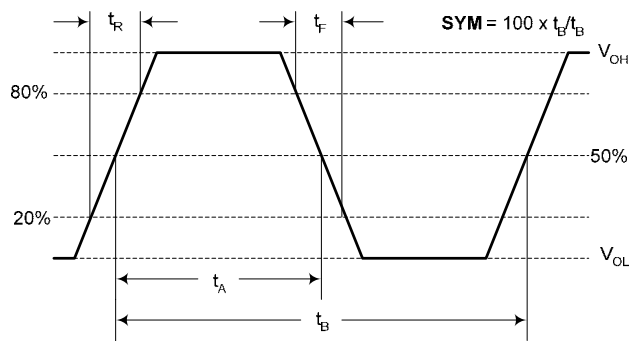

Figure 3. LVPECL Waveform
- Measured from 20% to 80% of a full output swing (Fig 3).